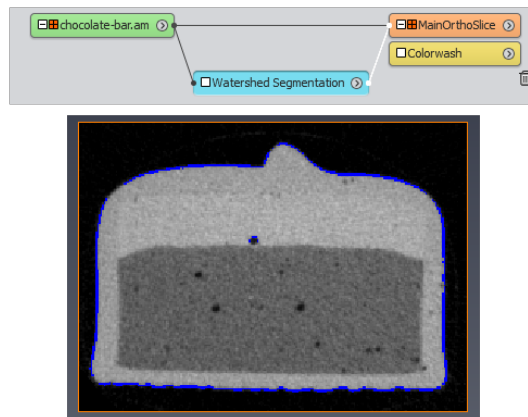

Figure 4.73: The *Watershed Segmentation* wizard at step 3.
- Then select again the *Watershed Segmentation* module (see Figure 4.73).